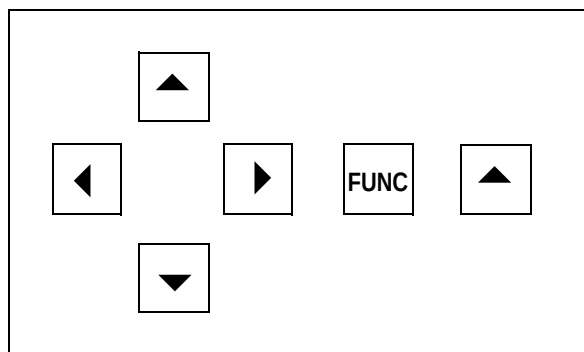
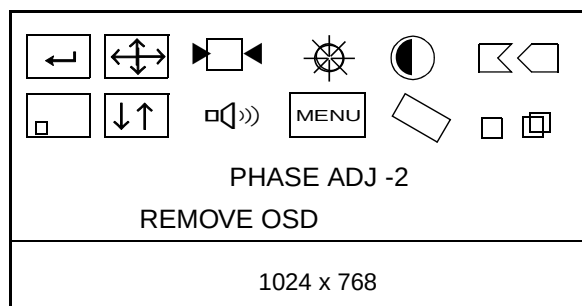

FIGURE 6. OSD Control Keys
FIGURE 7. On Screen Display
31. Remove the table lamp panel below the display, and pull it forward far enough for access to the small PCB assembly attached to the back of this panel. The control keys on this assembly are used for selecting display functions, and for making the display adjustments. See Figure 6.
32. Press the FUNC key to bring up the On Screen Display (Figure 7).
37. Press the Function key (Figure 6) to bring up the On Screen Display (OSD) (Figure 7).
NOTE: The following line of text is displayed on the OSD under the icons: "Phase Adj ± #". This is a readout of the temperature compensation circuit and is *not* the phase setting. See Figure 7.